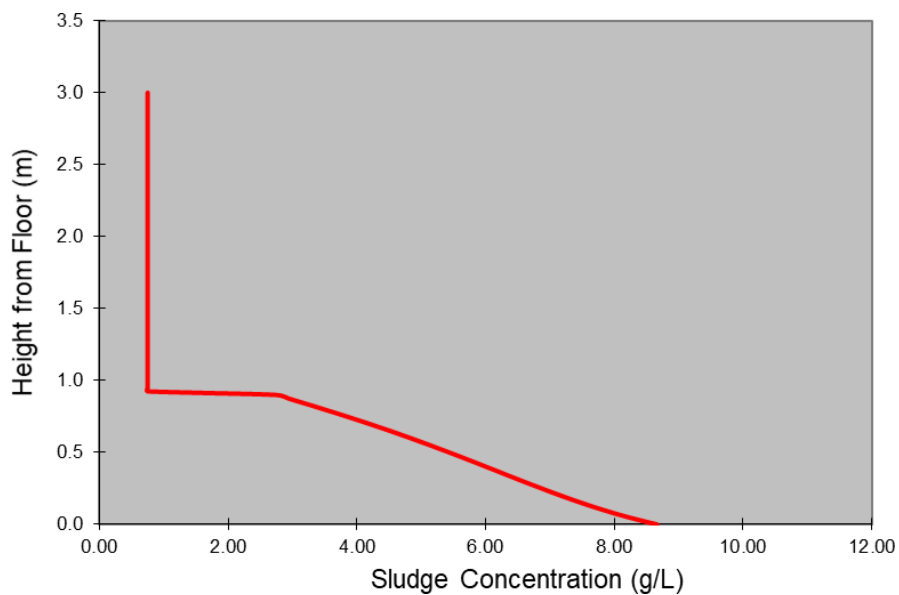

Figure 13: Example vertical solids profile for a gravity thickener.
- A core sampler (also called a sludge judge) can be used to understand the sludge blanket depth, and to produce a plot as shown in Figure 13.